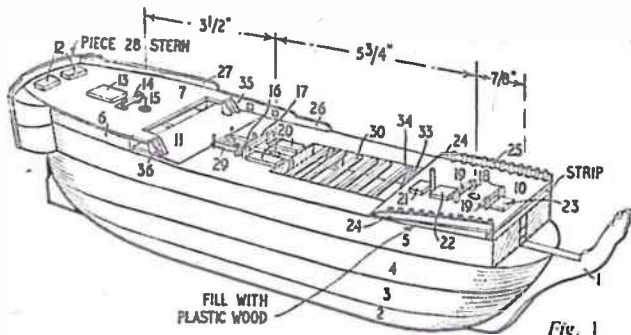

Fig. 1
Pieces 6 and 7 are next added at the stern and shaped off when the glue is dry to conform to the rest of the hull (Fig. 1). The filling pieces (8 and 9) are
Begin by tracing the keel (piece 1) and hull (pieces 2, 3, 4, 5, and 6) on to their appropriate thicknesses of wood, and cut cleanly round the outlines with a fretsaw. Save the waste wood from which to fashion smaller parts which will be described later. Pieces 2, 3, 4 and 5 are glued one on top of the other to form separate halves of the hull. Note that when assembling these halves they are "opposites", and will be glued on either side of the keel (Fig. 1).
now glued in the sunken portions of the deck. Piece 11 is shaped and glued in the positions shown in Fig. 1 and a piece of 1/8 in. wood (piece 10) is fitted over the forward end of the deck and
Now drill 1/8 in. holes to take the masts. Drill to a depth of 1/4 in. to 1/2 in. The positions are seen in Fig. 1 where the measurements given will ensure exact locations.
Cut out pieces 12, 13, 14 and 15, assembling where necessary and gluing to the deck in their positions shown in Fig. 1. Continue with bits (16 and 17), hatches (20, 21 and 22), bits (18 and 19) and hatch (23). Note also the stove-pipe,
Make up five sets of steps from pieces 33 and 34, gluing four in the hold on piece 8, and one in the companion-way. Steps 35 and 36 leading to the poop deck can now be assembled and added, (Fig. 1).